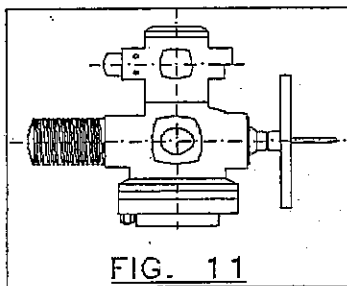

FIG. 11
- *Figure 11* ► it represents a electric actuator in operation.